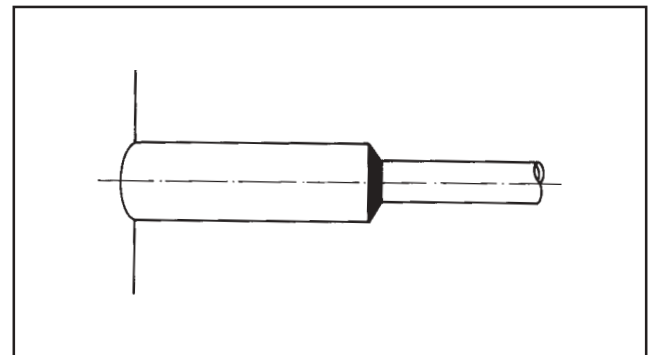

FIG. 10 VISUAL CHARACTERISTICS OF A GOOD-LOOKING BRAZEMENT.
3.1.2.7 The appearance of the connection must be in accordance with figure 10.